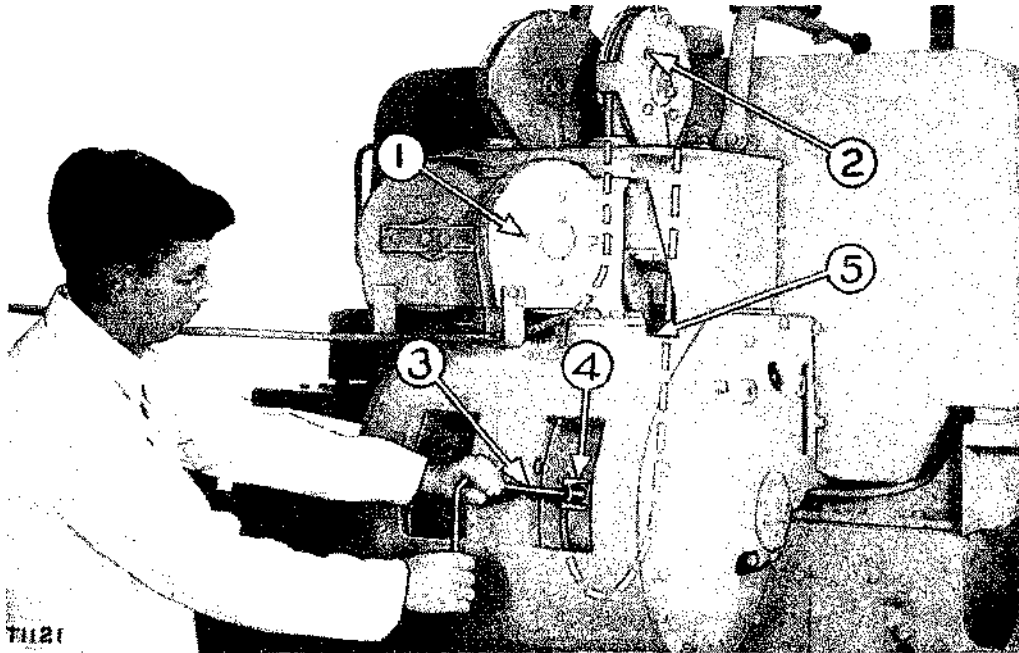
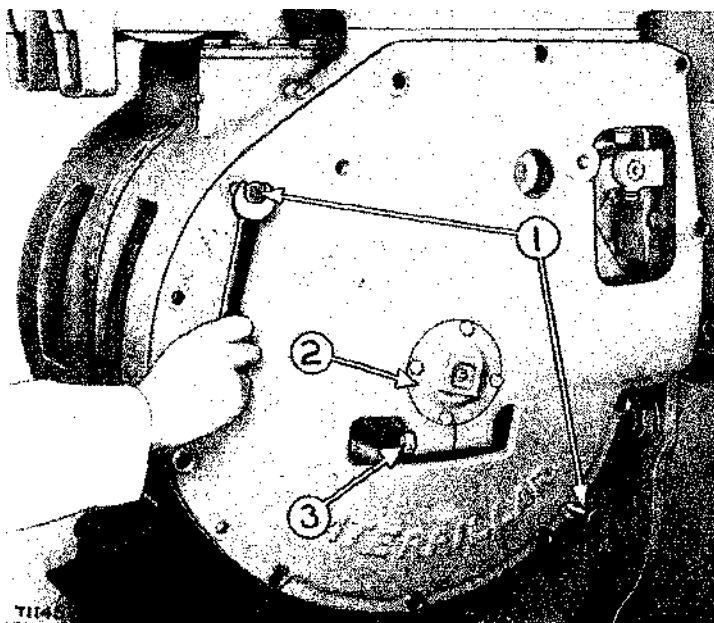

FIGURE 13—CABLE REPLACEMENT
FIGURE 14—
B. Cable Replacement. (See figure 13.)
- (1) As a safety precaution, do not attempt cable replacement with the engine running and the flywheel clutch engaged.
- (2) Loosen the cable clamp (4), using the wrench (3) as shown in the illustration.
- (3) Remove the old cable.
- (4) Weld the new cable on each end to eliminate fraying and permit easier threading.
- (5) Begin threading the cable through the sheave shroud assembly (1), around the swivel sheave (2), down through opening (5), and up around the drum to clamp (4).
- (6) Install the cable with the end close to the clamp as illustrated.
- (7) Tighten the clamp securely.
A. Disassembly. (See figures 14 and 15.)
- (1) Remove the capscrews holding the clutch and brake cover to the control case.
- (2) Loosen the clamp bolt (3).
- (3) On early models remove the cover by using the puller screws (1) which are $\frac{1}{2}$ " N.C., 2" long, full threaded capscrews.
- (4) Remove the capscrews and pull bearing retainer (2) from the engagement screw.
- (1) Remove the clutch and brake cover as illustrated in figure 14 but do not remove retainer (2).
- (2) Place the control lever in the "lockout" position and install a pin in the hole (4) to hold the brake spring compressed as outlined in paragraph 8A(5).